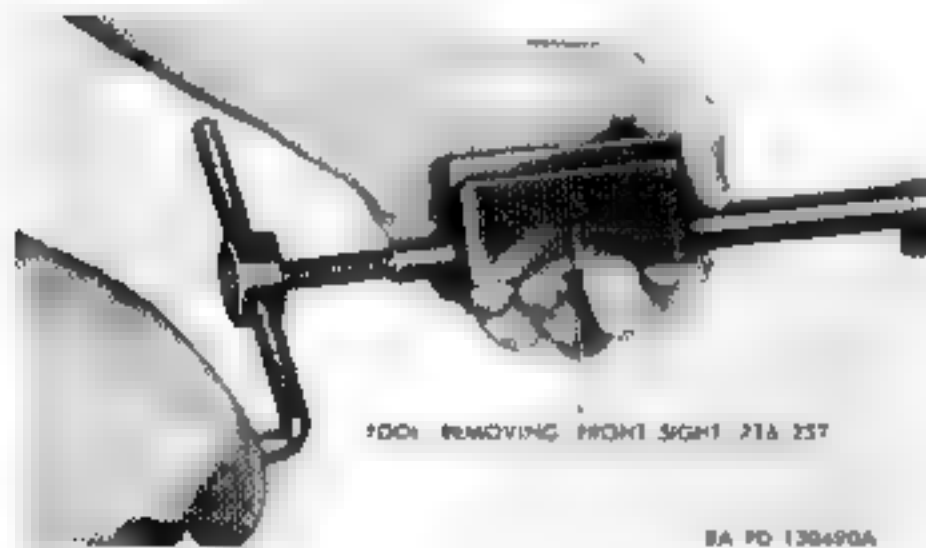

Figure 63. Removing front sight.
- (1) With the barrel and receiver in a padded vise, the muzzle protruding about 1 inch beyond the jaws of the vise, and the front sight vertical, drive out front sight pin from left to right, using a 3/32-inch drift.
- (2) Position front sight removing tool 7161237 over front sight, hooking it on the rear of the sight (Fig. 63).